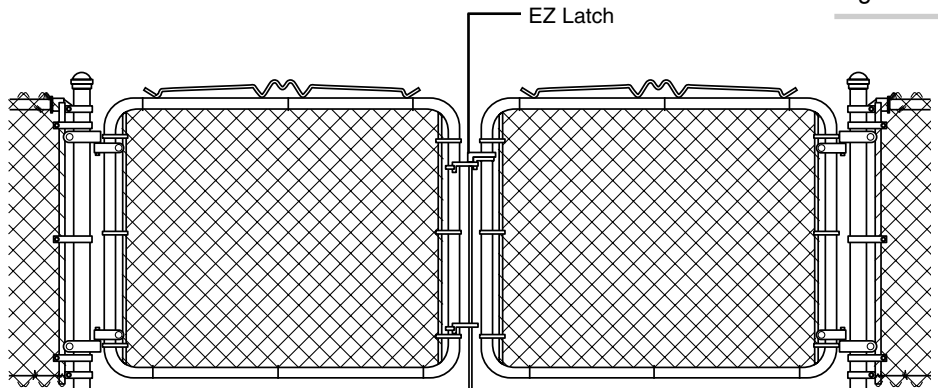

Figure 21
*NOTE: Adjust EZ Latch Assembly on the double swing gate to the correct height and tighten all bolts securely (Fig. 21).*